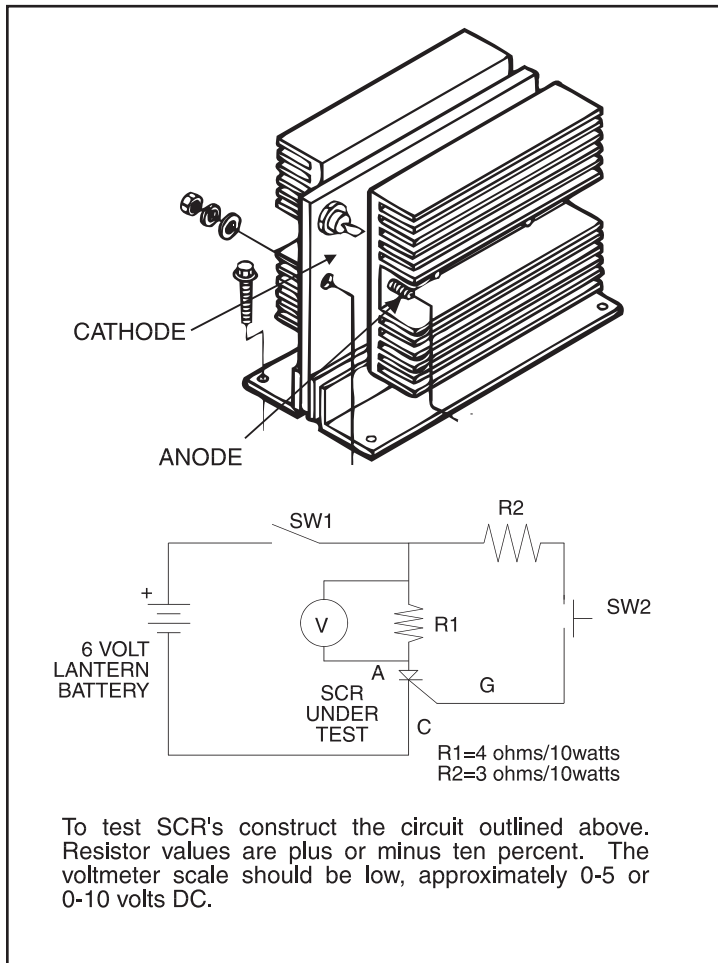

FIGURE F.7 - SCR Tester Circuit and SCR connections.
6. Construct the circuit shown in **Figure F.7**. One 6-volt lantern battery can be used. R1 and R2 resistor values are $\pm 10\%$. Set voltmeter scale low, at approximately 0-5 volts or 5-10 volts.
- a. Test the voltage level of the battery. Short leads (A) and (C). Close switch SW-1. Battery voltage should be 4.5 volts or higher. If lower, replace the battery.
7. Connect the Tester to the SCR 1 as shown in Figure F.7.
- a. Connect Tester lead (A) to the anode.
- b. Connect Tester lead (C) to the cathode.
- c. Connect Tester lead (G) to the gate.
13. Reconnect the Tester leads. See Figure F.7.
- a. Connect Tester lead (A) to the cathode.
- b. Connect Tester lead (C) to the anode.
- c. Disconnect Test lead (G) from the gate.